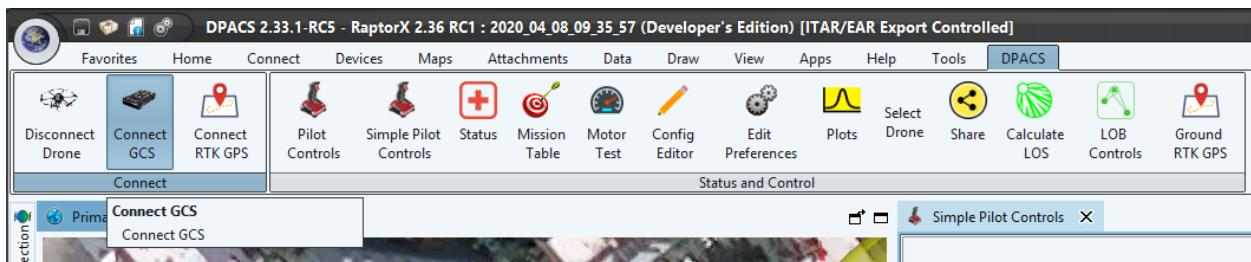

Figure 16 - Button highlighted to initiate a connection to a ground station navigation system (GCS)
2. Connect to the GCS using “Connect GCS” button shown highlighted in Figure 16.